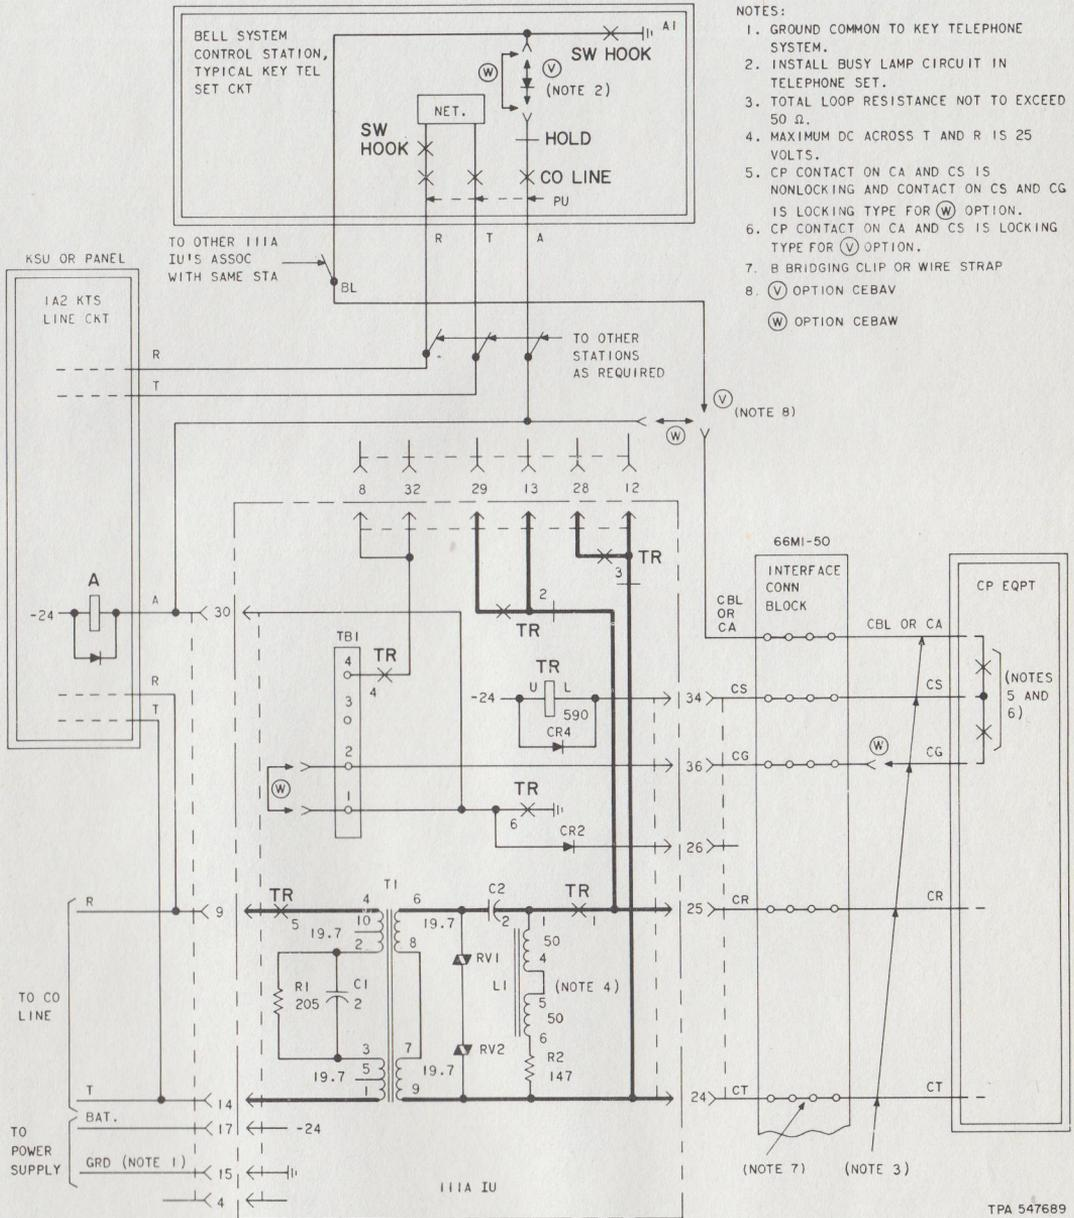

Fig. 8—Schematic—Voice Connecting Arrangements CEBAV & CEBAW
5. MAINTENANCE (Fig. 8)
6.02 The 111A IU is shown schematically in Fig. 8. The 69H apparatus mounting has provisions for installing two 111A IUs. Terminal designations for the KS-type connector associated with the apparatus mountings in Fig. 6 provide for installing 111A IUs in both positions.
6.03 For connecting information using the 606A panel, refer to Fig. 8 and Table A.